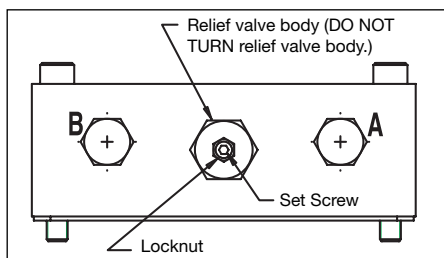

Figure 1
2. Install a 0-6,000 psi [0-400 bar] pressure gauge in the "A" port (see figure 1).